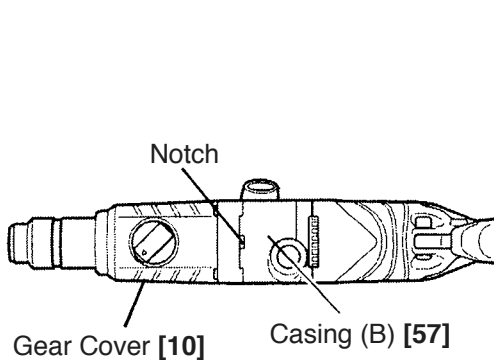
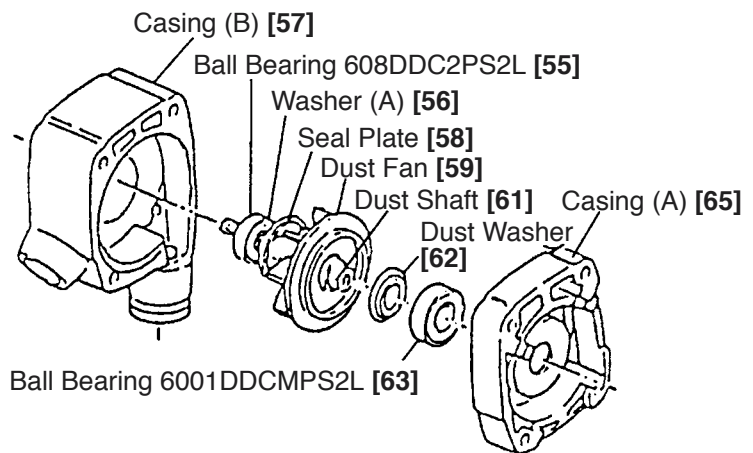

Fig. 11
Fig. 12
(1) Disassembly of the dust collection mechanism: Refer to Fig. 11 and Fig. 12.